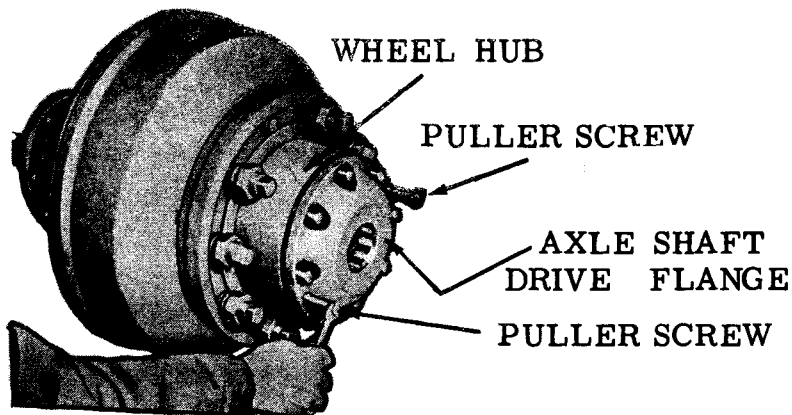

Figure 15. Removing Axle Shaft Drive Flange
- b. Remove the hex nuts (G) and lock washers (H) that attach the axle shaft drive flange (K) to the wheel hub and brake drum assembly (R).
- c. Install two puller screws into the axle shaft drive flange (fig. 15) to force it off the axle shaft and out of the wheel hub and remove flange.